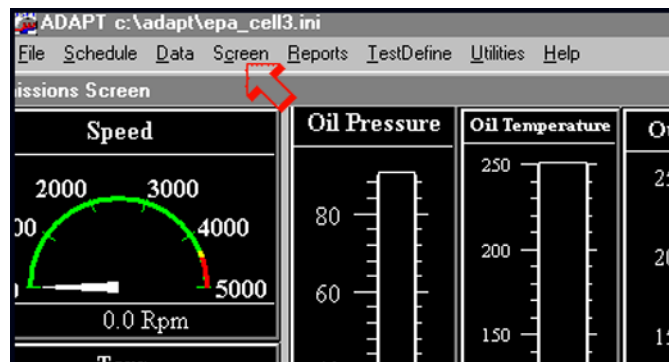

Figure 11
- 113 Click on "Screen" from the menu bar. See the arrow in Figure 11.